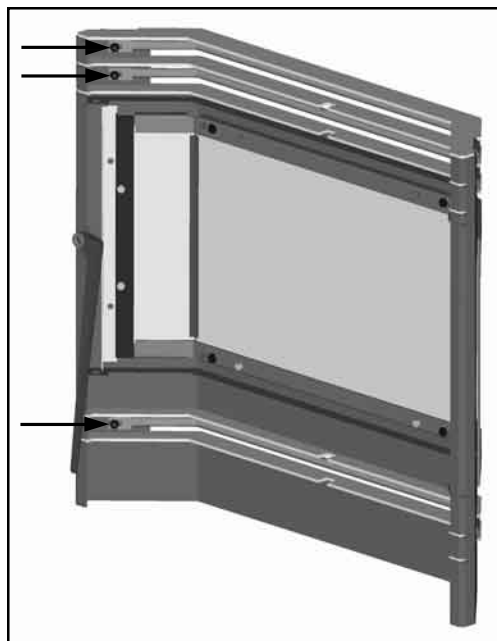

Figure 45: Door with louvers.
Door must be open. The three (3) arrows in Figure 45 point to three (3) of the nuts that hold the louvers on. There are three nuts on each end. Remove the six nuts by hand; if the nuts are tight, a $1^{1/32}$ " socket can be used. When removing the louvers, pull one end of the louver up over the stud. If it is difficult to remove the louver, push on one side from the front, then pull the other end off the second stud.